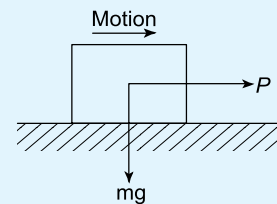

Figure 17.13
1. A mass of 40 kg rests on a flat horizontal surface as shown in Figure 17.13. If the coefficient of friction $\mu = 0.2$, determine the minimum value of a horizontal force P which will just cause it to move. [78.48 N]